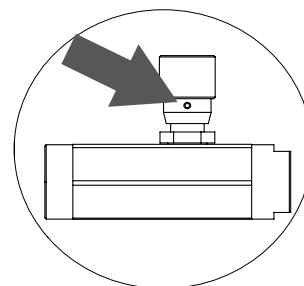

figure 14
- Remove the filler cap as indicated in “figure 14”